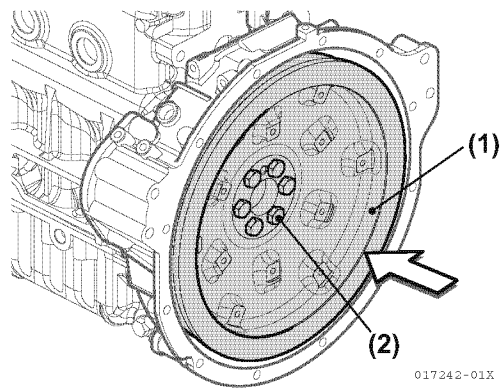

Figure 5-147
- (b) Align the positioning pins, and tighten the flywheel bolts to the specified torque (**Figure 5-147**).